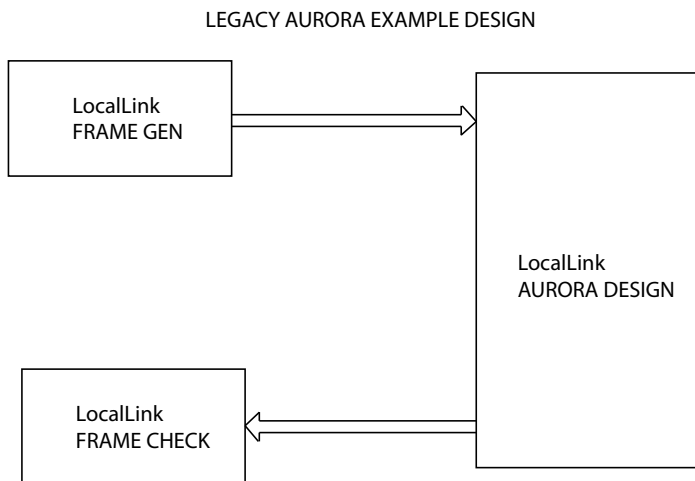
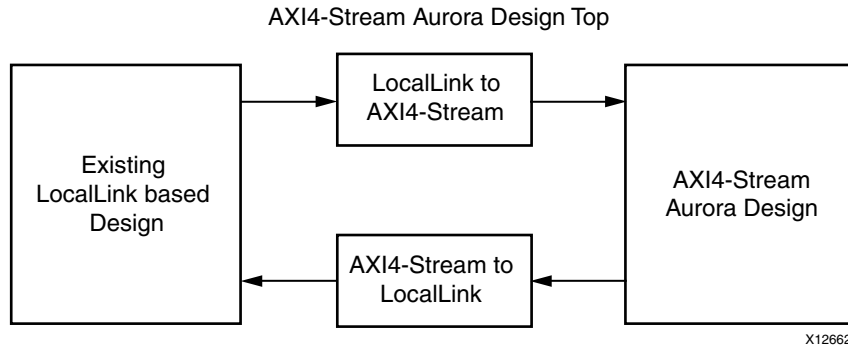

Figure B-1: Legacy Aurora Example Design
Figure B-2: AXI4-Stream Aurora Example Design
Figure B-1 shows an example Aurora design using the legacy LocalLink interface. Figure B-2 shows an example Aurora design using the AXI4-Stream interface.
2. See Figure B-2, page 135 for the emulation of a LL Aurora core from a AXI4-Stream Aurora core.
5. Connect the shim and AXI4-Stream Aurora design as shown in Figure B-2, page 135.